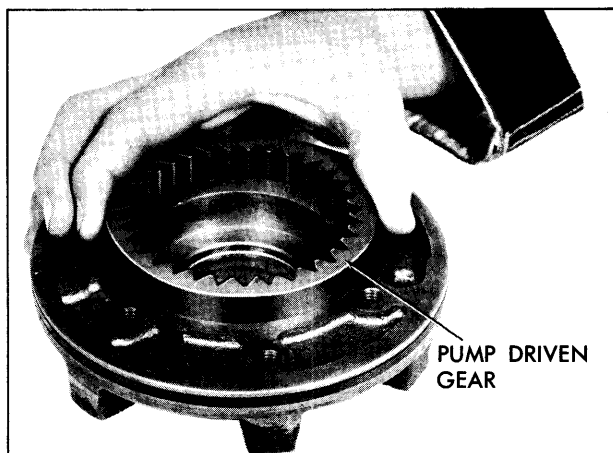

Fig. 7E-140 Removing or Installing Pump Driven Gear
2. Remove driven gear from pump body. (Fig. 7E-140)